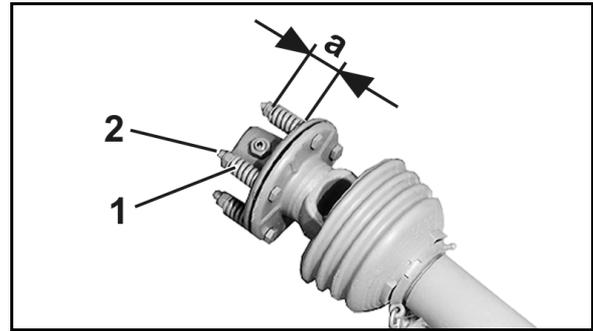

Fig. 75
2. Aliviar as molas (Fig. 75/1), soltando as porcas (Fig. 75/2).